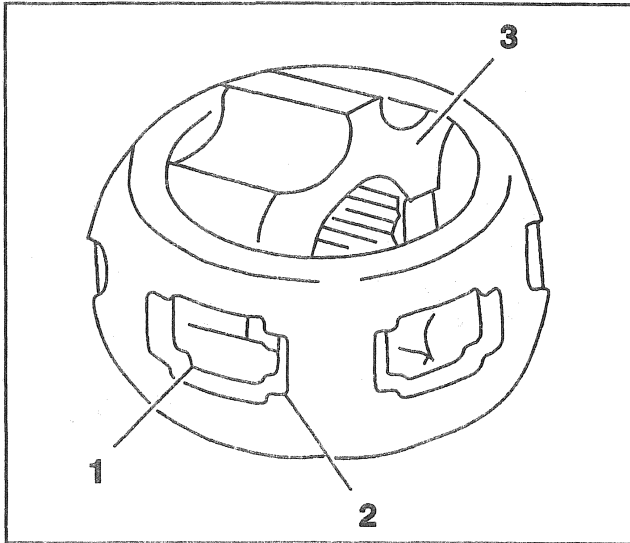

Figure 61—Separating Inner Race and Cage
- A. Rotate inner race 90 degrees to center line of cage with lands of inner race aligned with windows of cage (Figure 61).